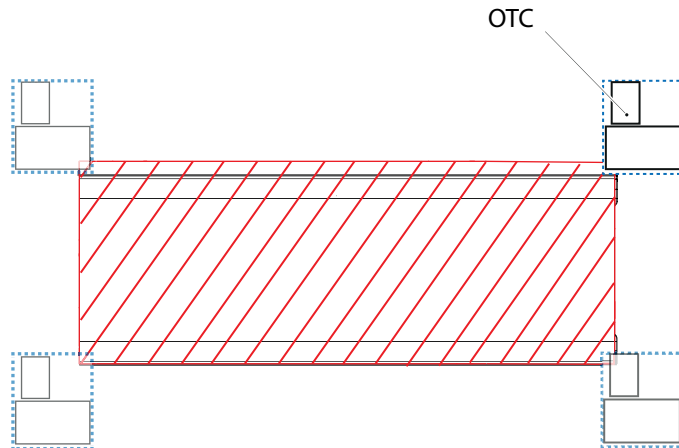

*Fig. 5-138*
2. Position the light field with the reticle at the middle of the Table head end, exactly where the cover ending and the middle seam, cross each other. See Fig. 5-138 . The OTC handle shall be positioned at the same direction as the front of the detector tray.